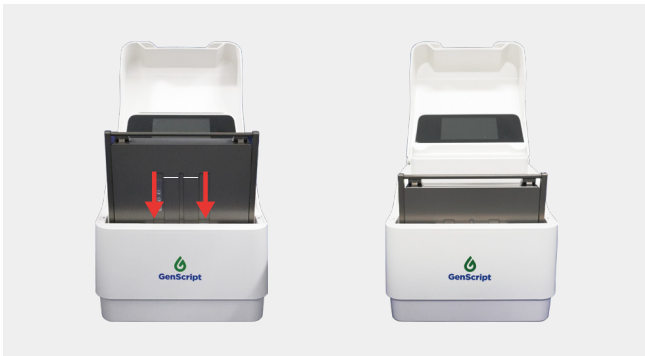

Figure 18. Inserting the transfer cassette
12. Fully insert the assembled transfer cassette into the channel until the scale lines of the cassette completely covered as shown in Figure 18.